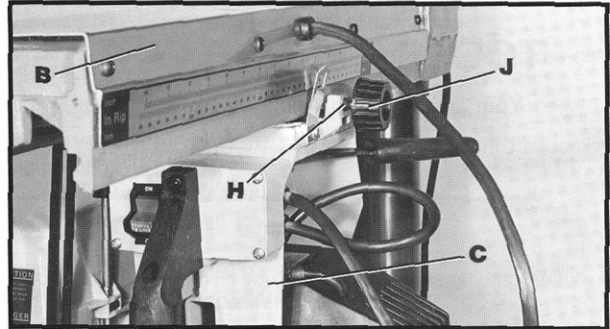

Fig. 7
5. Assemble spring (H) Fig. 7, and cuttinghead clamp knob (J) to cuttinghead (C) as shown. Turn knob (J) clockwise and clamp cuttinghead assembly (C) firmly to the track arm (B).